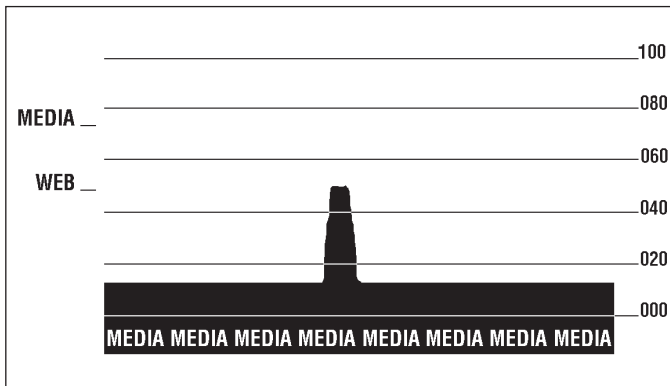

Figure 21
5. A profile of the media sensor settings (similar to the example in Figure 21) will print. Upon completion, the printer will save the new settings in memory and the printer is ready for normal operation.